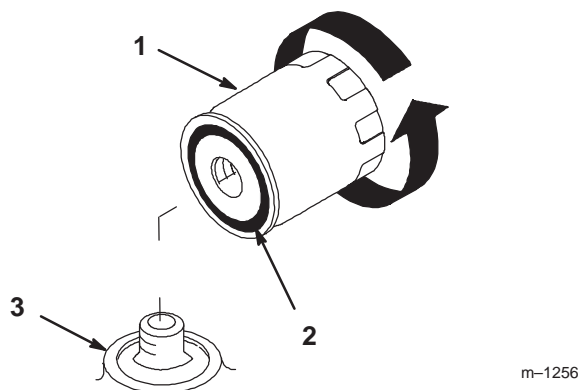

Figure 32
2. Remove the old filter and wipe the filter adapter (Fig. 32) gasket surface.
3. Apply a thin coat of new oil to the rubber gasket on the replacement filter (Fig. 32).
4. Install the replacement oil filter to the filter adapter. Turn the oil filter clockwise until the rubber gasket contacts the filter adapter, then tighten the filter an additional 1/2 turn (Fig. 32).